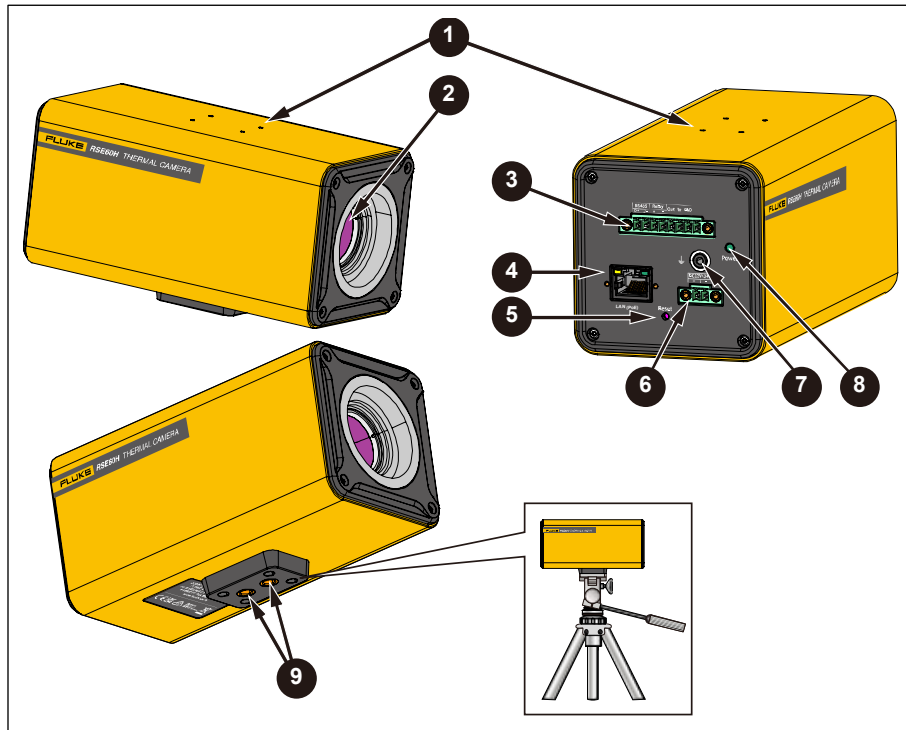

Figure 2. Product features
A summary of product features is listed in Figure 2 and Table 2.
2. Connect one end of the Ethernet cable to the Ethernet jack on a PC or a switch, connect the other end of the Ethernet cable to the LAN interface on the end of the Camera (4 in *Figure 2*).
3. Connect the AC plug of the power adapter to the power outlet and connect one end of the power adapter to the power input port on the end of the Product (6 in *Figure 2*). The LED indicator lights green indicating the power on status.